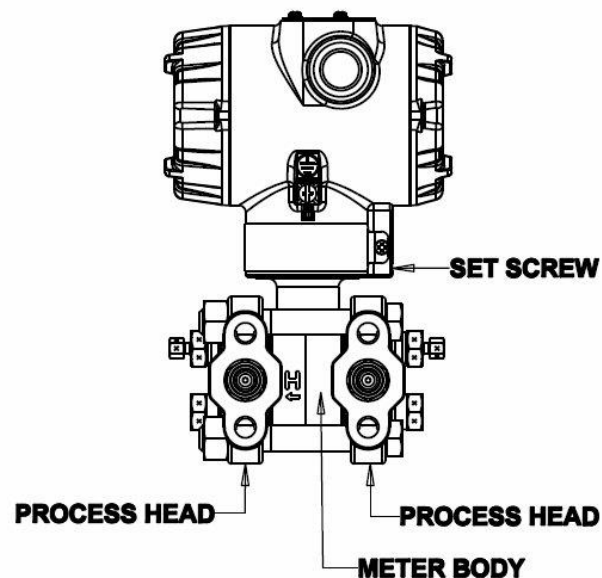

Figure 23 – Hardware Location to Remove the Meter Assembly
8. Refer to Figure 23 . Use a 2 mm hex wrench to completely loosen the set screw on the outside of the housing to permit rotating the meter body.